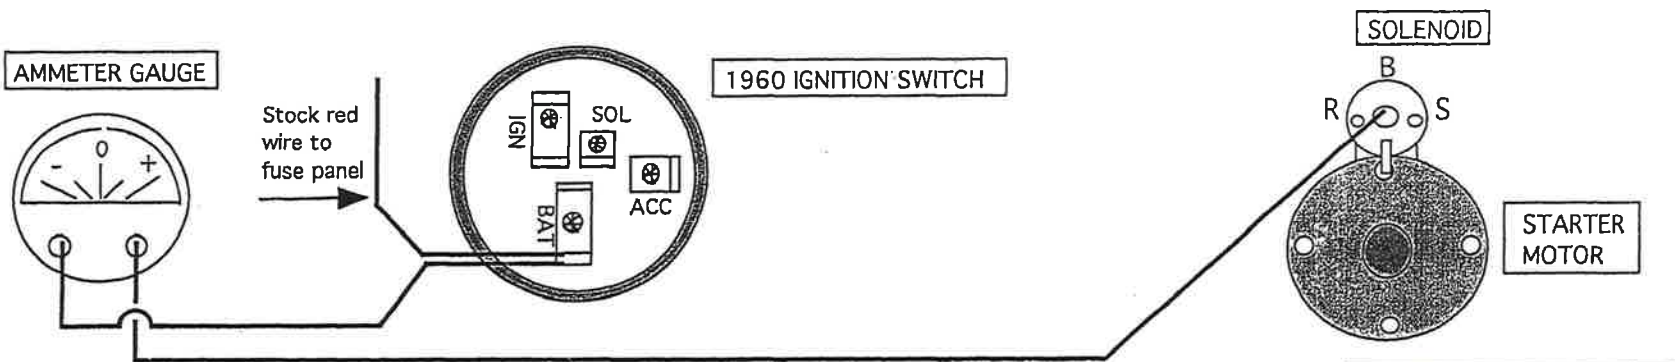

FIGURE 3 - Recommended hookup for ammeter gauge
This harness is designed to be used with the original generator light in the car and with a drivers side internal regulated alternator. If you would like to install an after market ammeter gauge refer to the enclosed diagrams (Figure 3) for instructions.
5. If your Dash Harness is an original GM it will contain a 4 contact ignition switch connector, you must remove the pink wire (part of Dash Harness) from the ignition switch connector and insert it into the supplied loose piece connector. You then plug this into the pink wire on the **GEN LIGHT JUMPER HARNESS**. Find the female terminal with the brown with white stripe wire & pink wire and insert it into the cavity on the ignition switch connector where you previously removed the pink wire from. If your Dash Harness is a reproduction, it will have a 1 contact connector and a 3 contact connector for the ignition switch as the original 4 contact connector is no longer available. In this case you will remove the pink wire with a single contact connector from the Ignition and plug it into the pink wire on the gen light jumper harness. Find the female terminal with the brown with white & pink wire and insert it into the supplied loose piece connector. Plug this connector into the ACC terminal on the Ignition switch. If you are going to install an after market ammeter gauge, now is the time to do so. (see Figure 3)